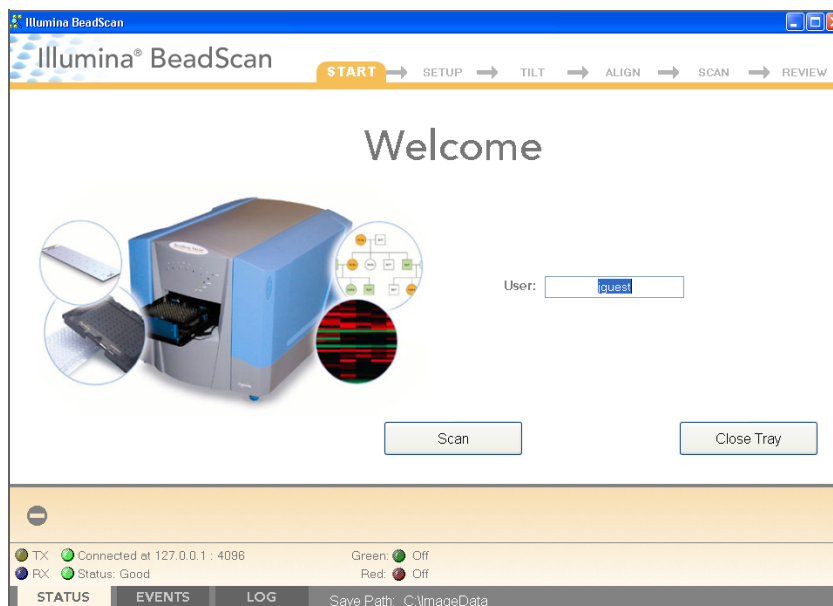

Figure 80 BeadScan Welcome Screen
4. Log in and click **Scan** (Figure 80).